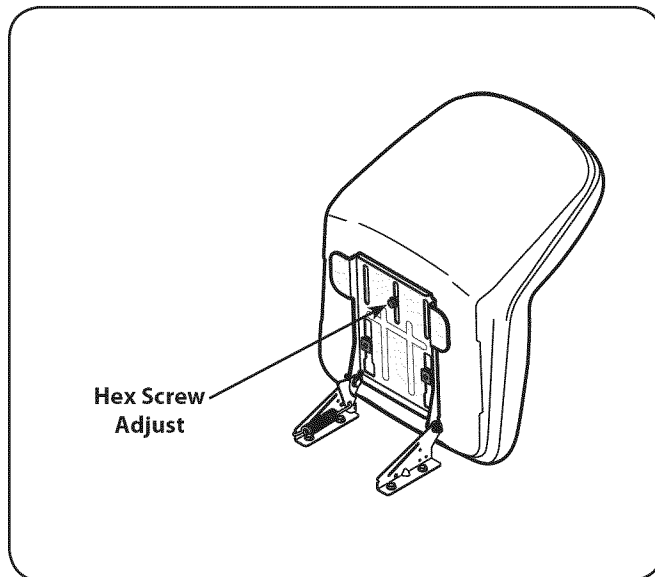

Figure 3-5
5. To adjust the position of the seat, loosen the hex screw on the bottom of the seat. Slide the seat forward or backward as desired. Retighten the hex screw. See Fig. 3-5.